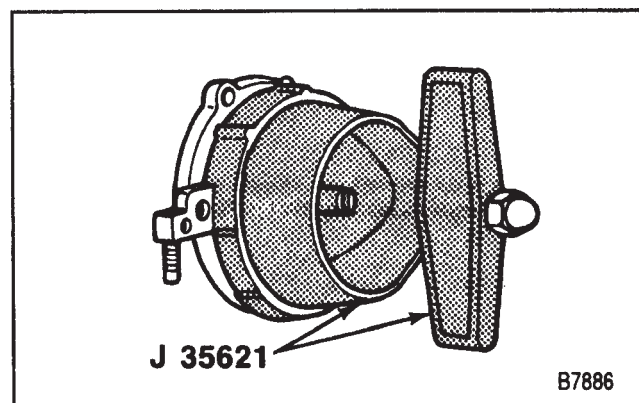

Figure 28—Installing the Crankshaft Rear Oil Seal
### Install or Connect (Figure 28)
1. Crankshaft rear oil seal (figure 28).